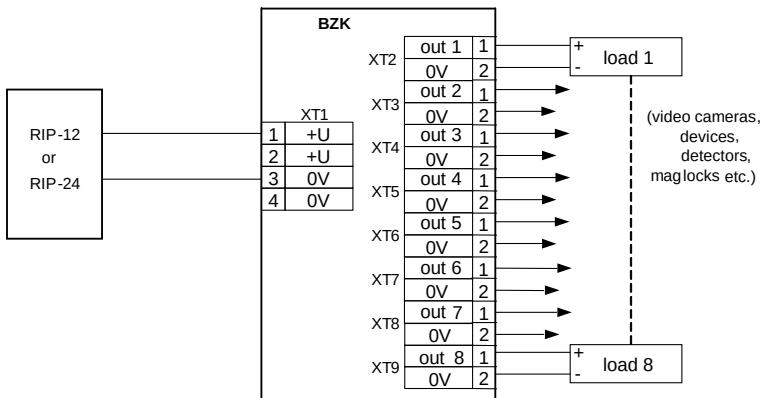

Figure 3
2.1.2 Mount the module and wire it in accordance with the connection diagram in Figure 3.